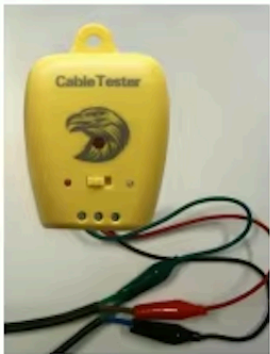

Figure 2
Connect the system leads at the beginning of the project to detect faults. See Figure 2. The screamer is designed to monitor the mats or cables individually. However, by making a temporary "series" connection of multiple mats or cables, it can monitor up to three (3) products at one time.
1. FOR A SINGLE MAT OR CABLE: Strip the insulation around the tip of the cold cable and separate the sheath ground wire. Insert each lead wire of the cold cable into the red and black clips with the ground wire inserted into the green alligator clip. See Figure 2.